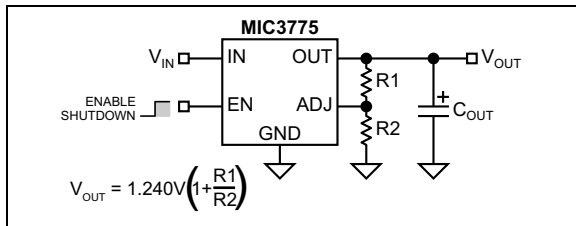

FIGURE 4-2: Adjustable Regulator with Resistors.
Figure 4-2 shows component definition. Applications with widely varying load currents may scale the resistors to draw the minimum load current required for proper operation.
- Typographical correction to the equation in Figure 4-2.